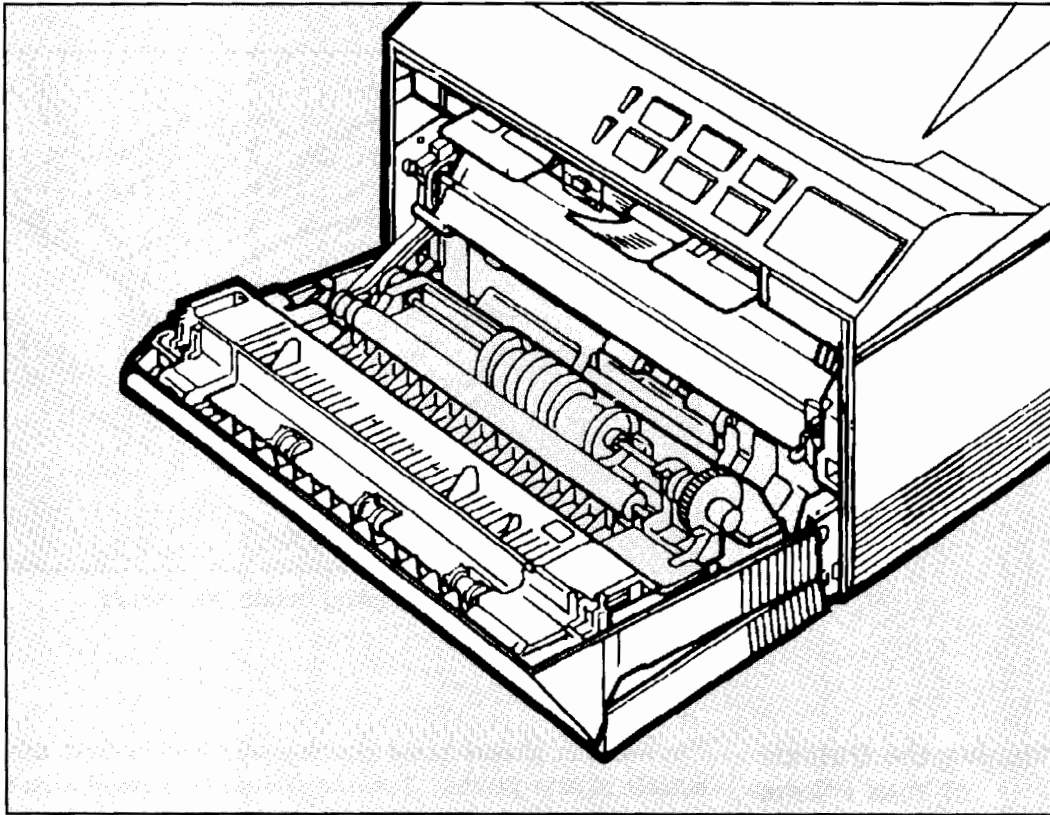

Figure 7-13. Locating Toner
1. Look inside the printer for toner. Figure 7-13 highlights places where toner may collect.